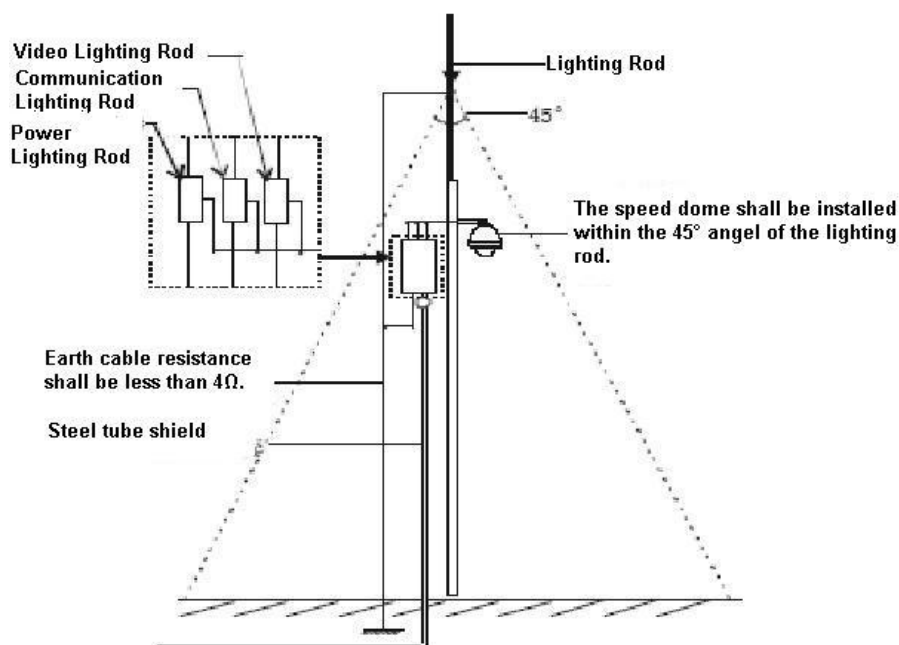

Figure 4-1
- System shall adopt equal-potential wiring. The earth device shall meet anti-jamming and at the same time conforms to your local electrical safety code. The earth device shall not short circuit to N (neutral) line of high voltage power grid or mixed with other wires. When connect the system to the earth alone, the earth resistance shall not be more than  $4\Omega$  and earth cable cross-sectional area shall below  $25\text{ mm}^2$ . See Figure 4-1.